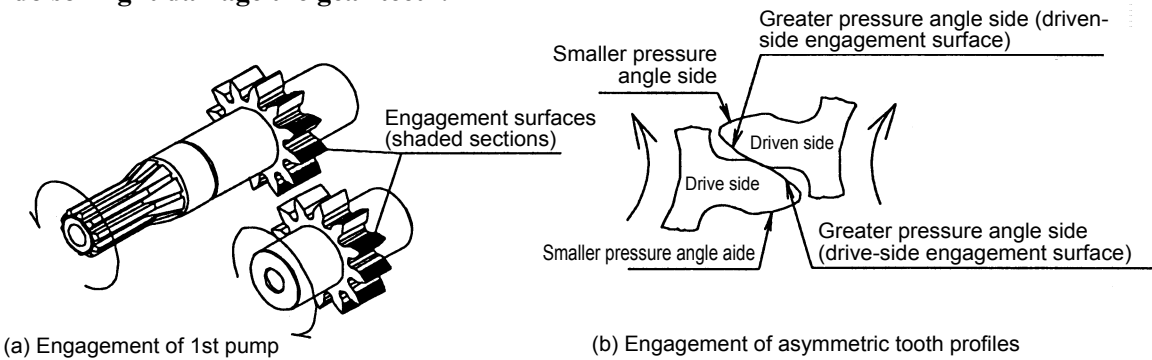

Fig. 3.410
- ⑪ Install the driven gear (1) in the pump body half 2 (2), as shown in Fig. 3.410.